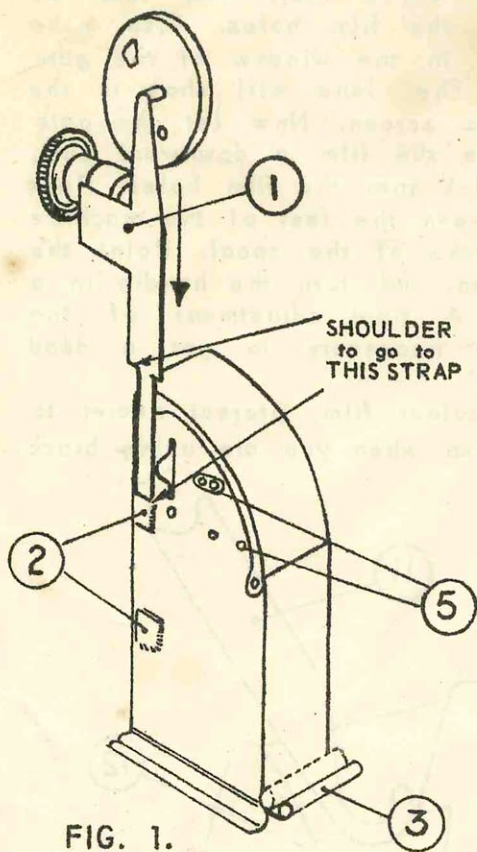

FIG. 1.
Slide out the base of the machine (3) you will see inside a metal channel (4) Put two No. U.2. Dry cells into this channel, one behind the other, with the central contact pointing towards you. - That is the opposite way to which the batteries are usually put in electric torches. **THIS IS MOST IMPORTANT**, otherwise the switch will not work. Now slide the base back. The lamp should then switch OFF when the base is pushed right in, and switch ON when the base is pulled out about  $\frac{1}{2}$  inch. To operate from mains supply - connect transformer leads to sockets (5). (See FIG 1).